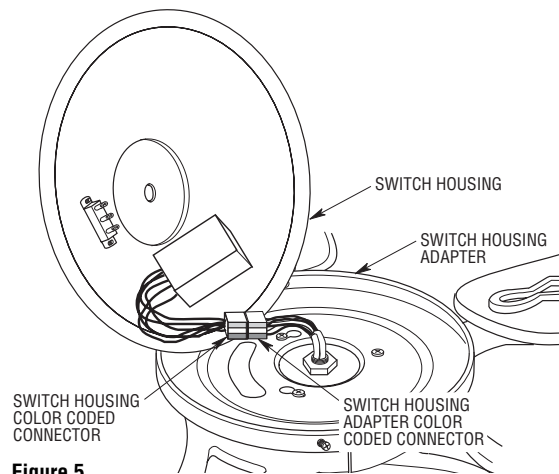

Figure 5
- 7. Engage the connector of the switch housing to the switch housing adapter connector (Figure 5). The two connectors are keyed and color-coded and must be mated correctly (color-to-color) before they can be engaged. Be sure the connector latch closes properly.